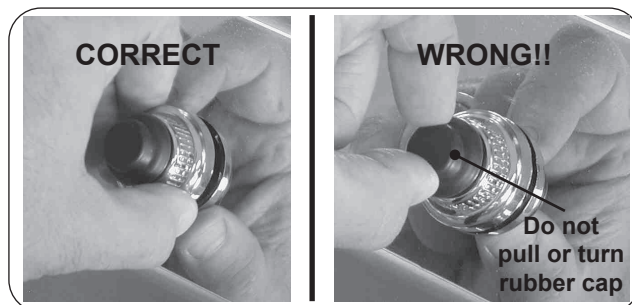

Fig. 29-3 Remove igniter cover
- Important:** Do not attempt to pull or turn the rubber cap (see Fig. 29-3).